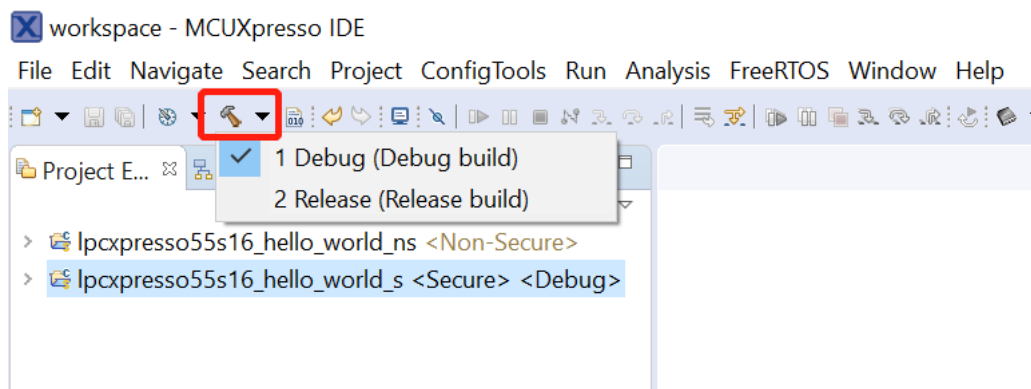

Figure 16. Selection of the build target in MCUXpresso IDE
- Now, two projects should be imported into the workspace. To start building the TrustZone application, highlight the `lpcpresso55s16_hello_world_s` project (TrustZone master project) in the Project Explorer. Then, choose the appropriate build target, **Debug** or **Release**, by clicking the downward facing arrow next to the hammer icon, as shown in Figure 16. For this example, select the **Debug** target.